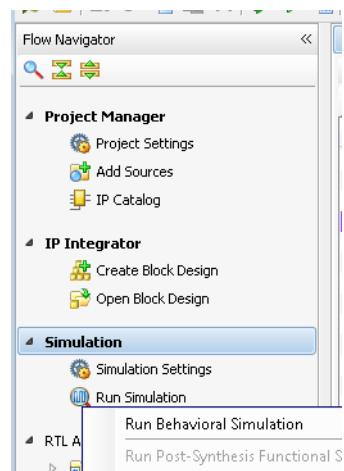

Figure 9-30: Execute Simulation
10. Click **Run Simulation** in the Flow Navigator (Figure 9-30).